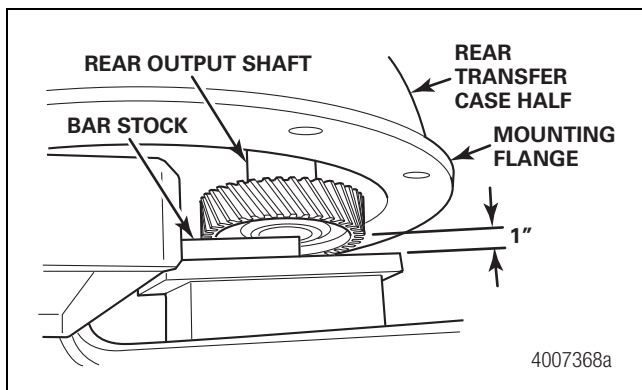

Figure 6.19
2. Use bar stock or other material to support the rear output shaft underneath the rear transfer case half. Ensure the bar stock does not rest under the transfer case mounting flange, but only supports the gear and shaft assembly. Figure 6.19.